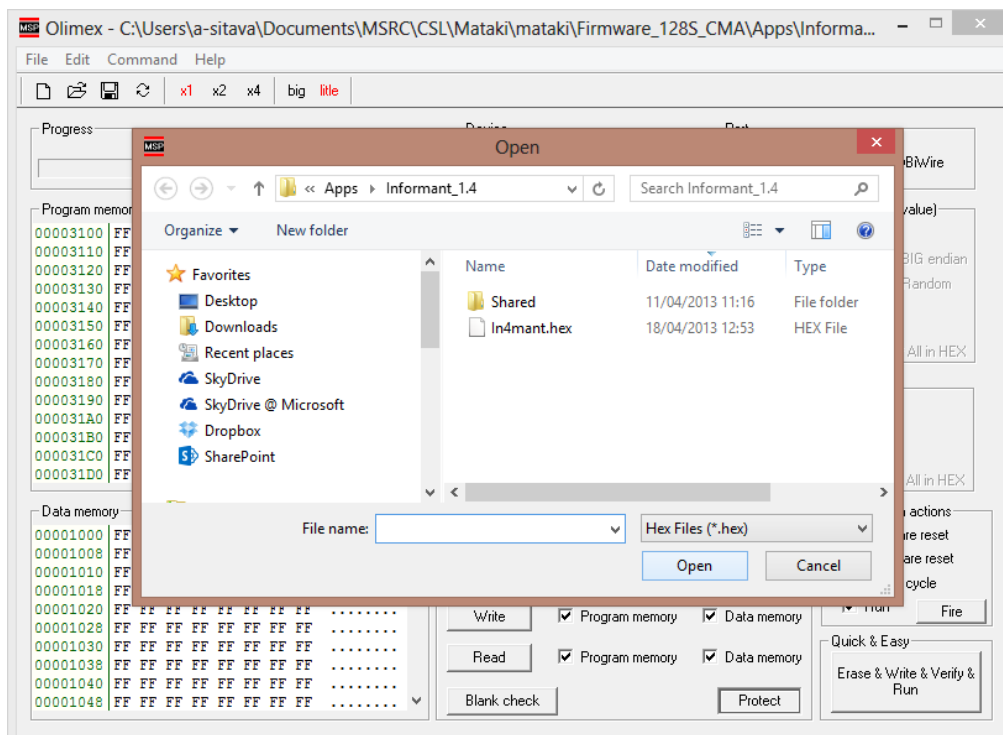

Figure 17 - Loading new Program code into Olimex software
- 2) Load the program into the Olimex software by opening the executable code, i.e. the file with extension name '.hex'. like in the snapshot in figure 17.